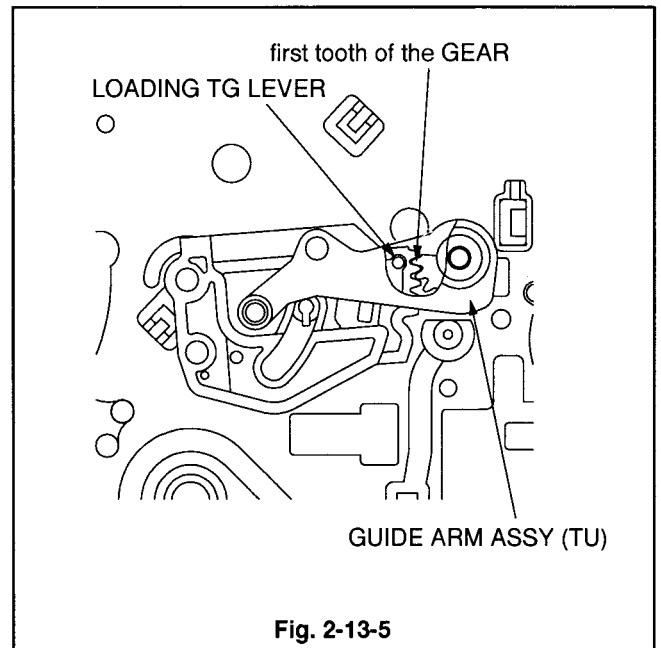

Fig. 2-13-5
- 7 Install the GUIDE ARM ASSY (TU) so that the first tooth of the gear of the GUIDE ARM ASSY (TU) shown in Fig. 2-13-5 matches with hole ① of the LOADING TG LEVER.